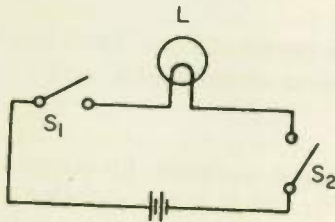

Fig. 35
2. Which of the selections for Question 1 describes the operation of the circuit of Fig. 35?